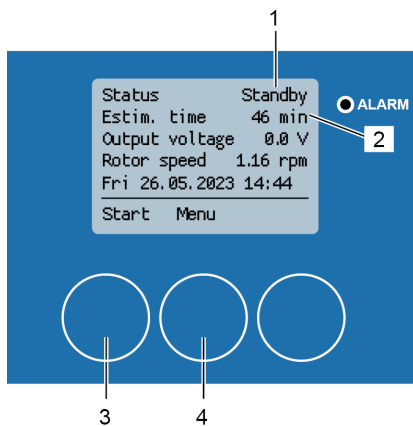

Fig. 158: Cleaning process start screen
If the calibration has been carried out successfully, the cleaning process start screen appears on the display showing the status indication "Standby" (Fig. 158/1) and the estimated cleaning time (Fig. 158/2).
1. Start the cleaning process with [Start] (Fig. 158/3).
Press [Menu] (Fig. 158/4) to return to "1 Main menu" menu.